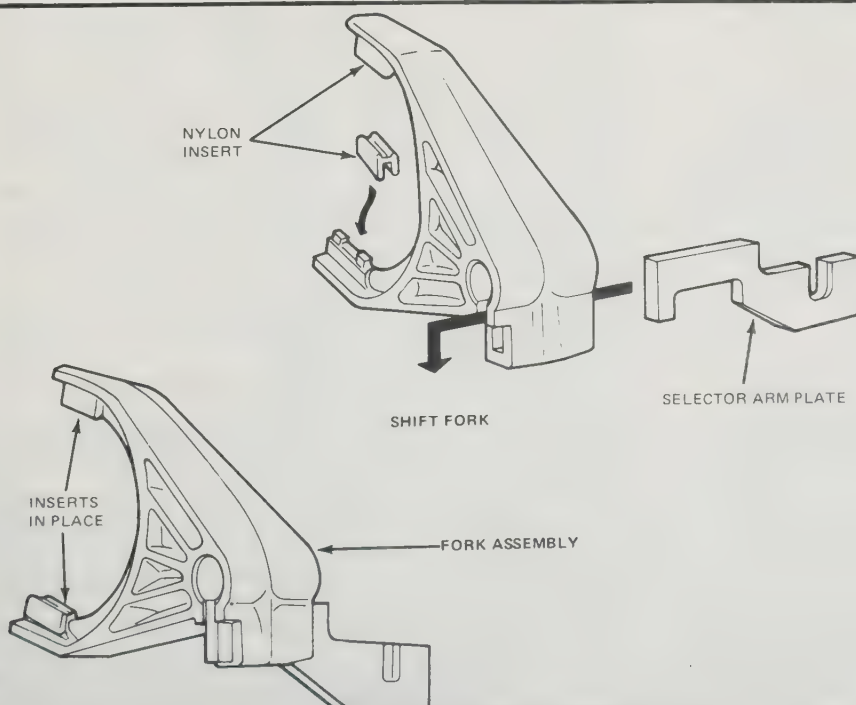

Fig. 6.11. Location of selector fork nylon inserts and selector arm plate (Sec. 7)
- 20 To reassemble the top cover, first make sure the new nylon inserts are correctly fitted on the forks and then insert the selector arm plates into the shift forks (Fig. 6.11).